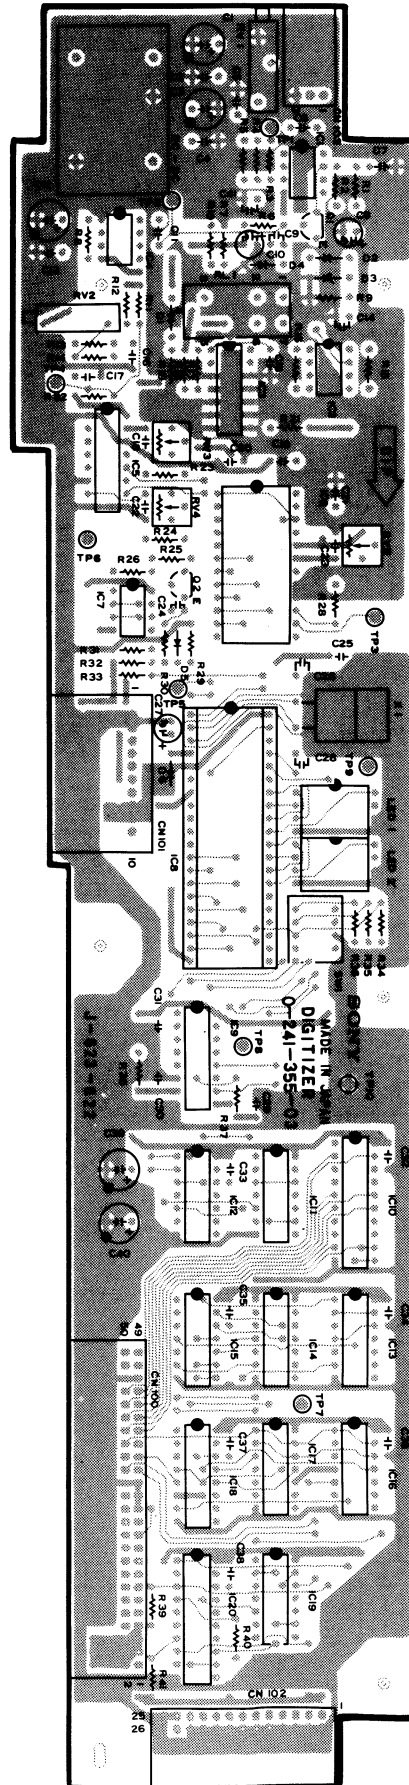

Fig. 2-8 Part Layout on Digitizer
- (2) Part Layout and Circuit Diagram on Digitizer. (Refer to Fig. 2-8, 2-9)